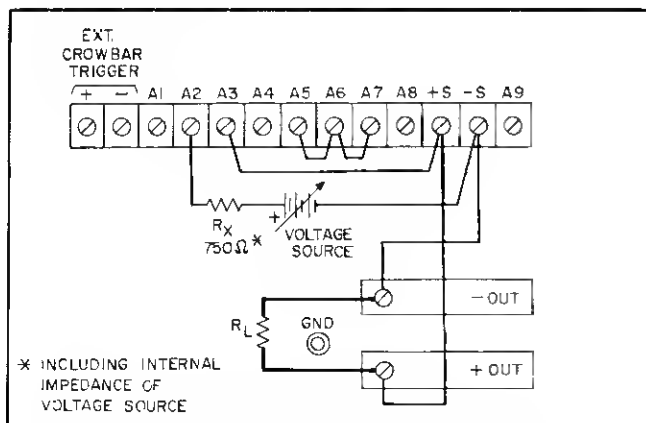

Figure 3-5. Voltage Programming of Output Voltage (Unity Gain)
**3-41 Constant Voltage Output, Voltage Input (Unity Gain).** The rear panel connections shown in Figure 3-5 allow the output voltage to be varied by using an external voltage source to program the supply. In this mode, the output voltage varies in a 1 to 1 ratio with the programming voltage. The load on the programming voltage source is less than 20 microamperes. Impedance matching resistor  $R_X$  is required to maintain the temperature coefficient and stability specifications of the supply. To adjust the output voltage to exactly zero with a zero programming voltage, follow the same instructions as are referred to in paragraph 3-40.